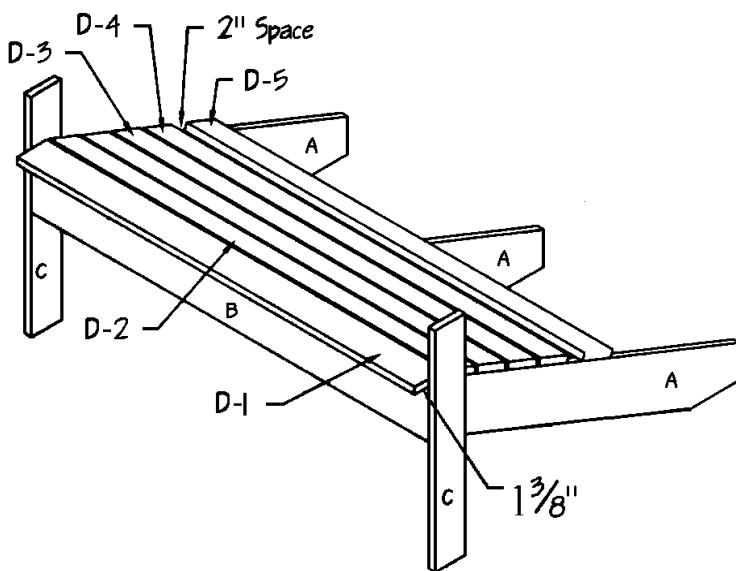

Figure 4
1. Cut six Seat Slats (D) from 1 x 4 pine, each measuring 46 inches.
2. For comfort round off the long edge of the slat (D) that will be attached to the front of the bench. Attach this slat to the “d-e” edges of the Seat Braces (A) so that it extends 1-3/8 inches over the Seat Trim (B), as shown in *Figure 4*. Use two 1-1/4” finish nails on each side, and four 1-1/4” finish nails spaced evenly across the front.
3. Attach the next four Seat Slats (D) to the Seat Braces (A), as shown in *Figure 4*, spacing them approximately 3/8 inch apart. Use two 1-1-5/8” wood screws on each joint. Attach the sixth slat (D) 2 inches from the fifth Seat Slat (D). This space will be needed later to accommodate the back of the chair.